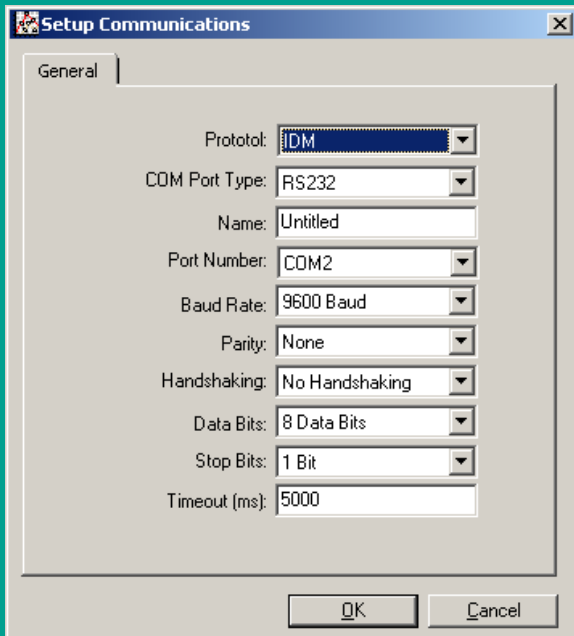

Figure 19: Setup communications screen
4. Click on the “communications port” option to select it. The setup communications screen appears similar to figure 19.